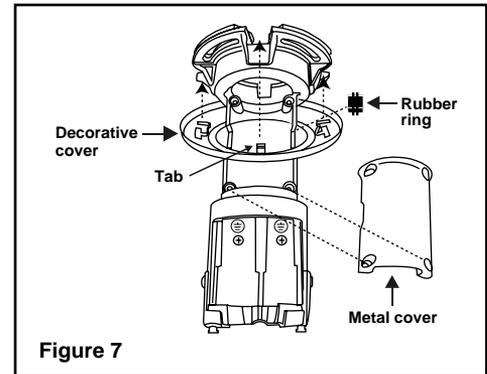

Figure 7
6. Slide the decorative cover to the top of the fan support stem and secure. (Fig. 7)
7. Remove the metal cover and rubber ring from the fan support stem by loosening the 4 screws on metal cover, and proceed the following rails installation. (Fig. 7)